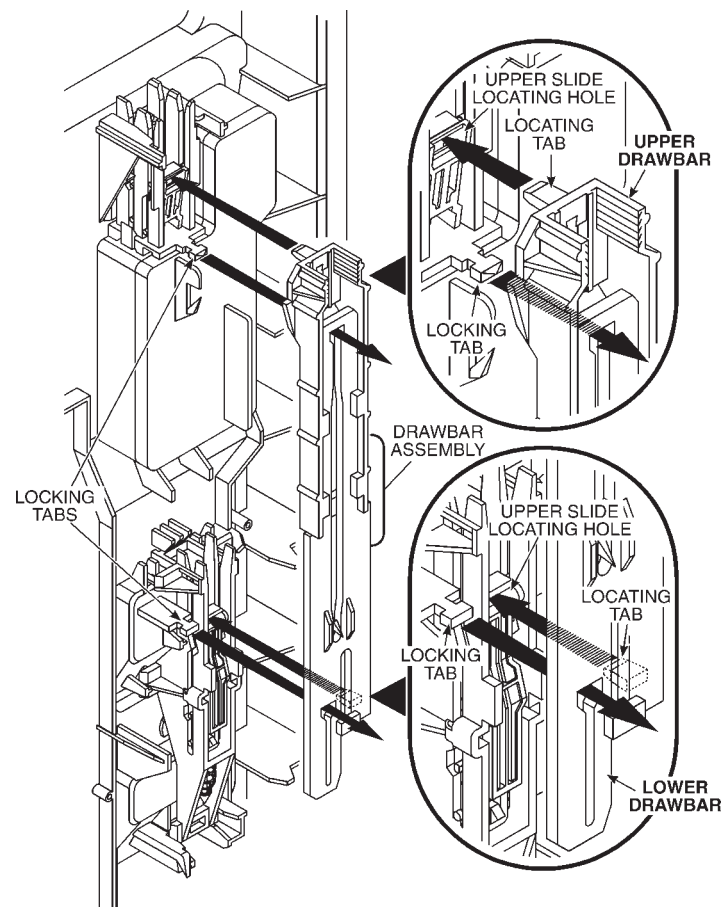

Fig. 1-27
2. Align the lower drawbar holes with the locking tabs and remove the upper and lower drawbars. As you do, note the locating tabs behind them and how they align with their respective locating holes. (Fig. 1-27)
11. Move all slides in both assemblies fully down. Keep the drawbars slid fully together and align the drawbar holes over the locking tabs. Look behind the drawbars and make sure to engage the locating tabs with their respective locating holes. Press the drawbars into position and slide them upward behind the locking tab ears. (Fig. 1-27)